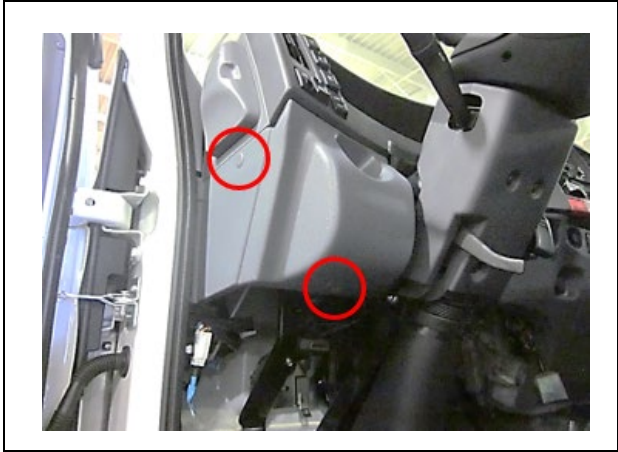

Figure 41
36. Install the driver side instrument side cover removed in Step 4. (See Figure 41.)